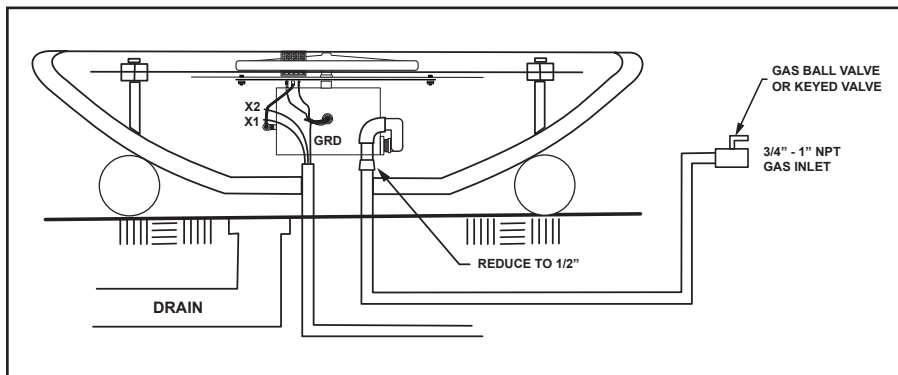

Figure 4. Piping
3. The piping must be reduced to $\frac{1}{2}$ " NPT or larger at the burner, as shown in Figure 4.
9. Install 90° pipe elbow and gas hose at the gas connection as shown in Figure 4
1. The height of the flame can be adjusted at each burner by opening or closing the ½" gas valve or keyed valve as shown in Figure 4.